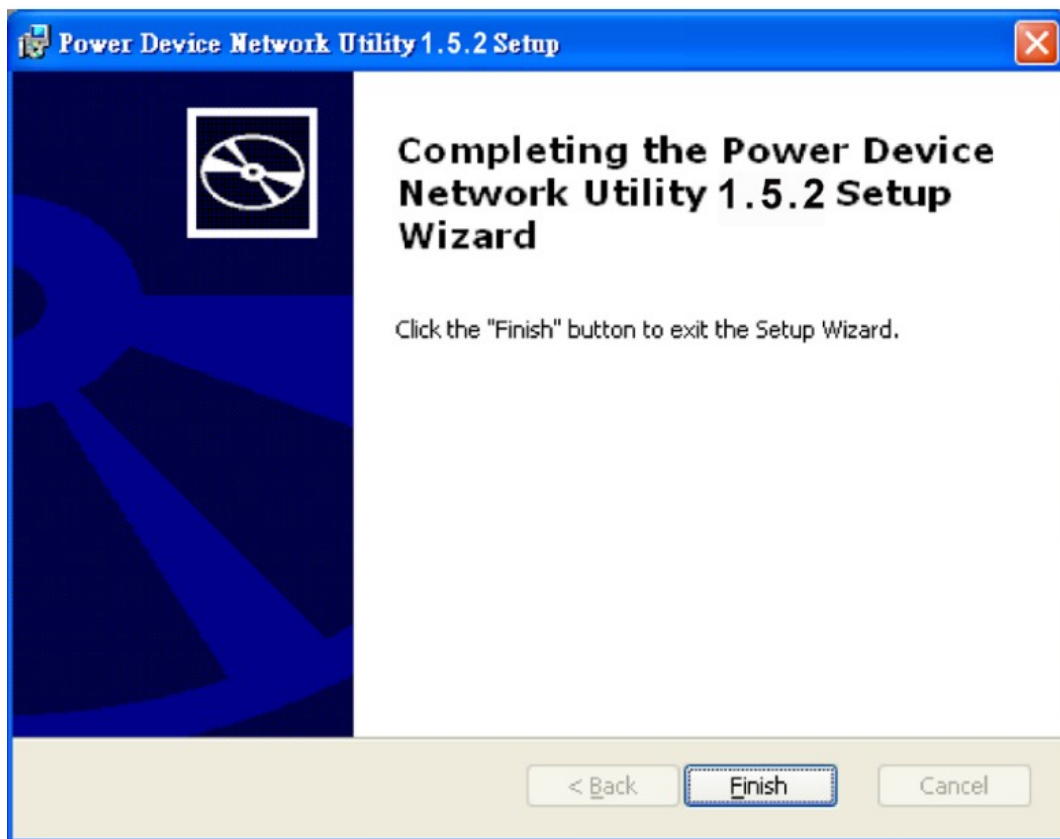

Figure 4
Step 5. Select Finish to finalize the installation (Shown in Figure 4).